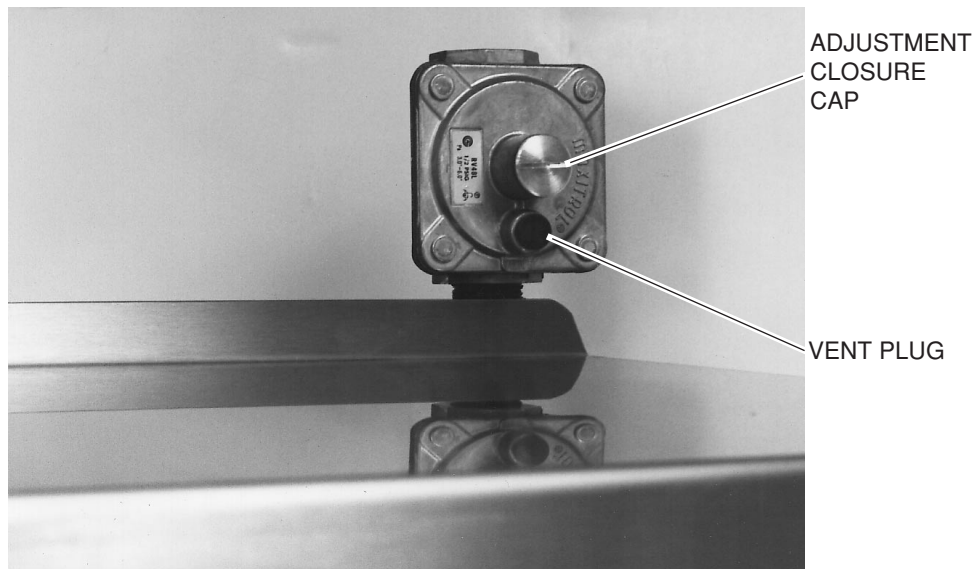

Fig. 1
1. With a screwdriver pry the plastic vent plug from the top of the regulator. (See Fig. 1)